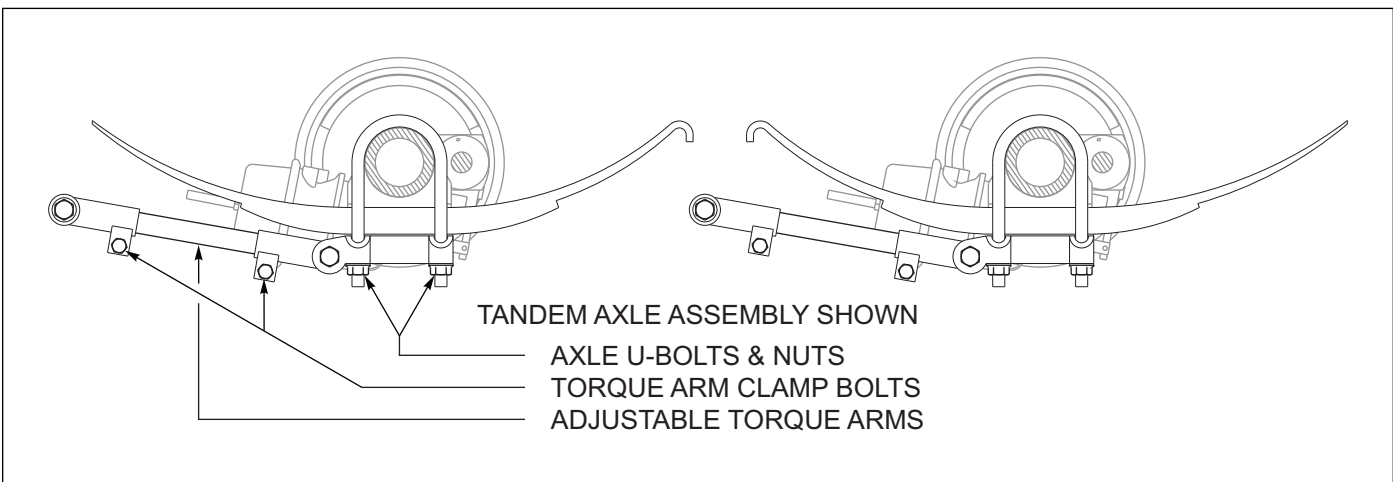

Figure 4-6: Spring Ride Adjustable Torque Arm
6. Align if measurement requires: Loosen the adjustable torque arm clamp bolts. Slightly loosen the axle u-bolt sets evenly on each side of the axle, *See Figure 4-6.*
7. Turn the adjustable torque arm clockwise or counter-clockwise to adjust. Repeat Steps 5-7 until measurement is achieved. *See Figure 4-6.*
3. Align if measurement requires: Loosen the adjustable torque arm clamp bolts. Slightly loosen the axle u-bolt sets evenly on each side of the axle, *See Figure 4-6.*
4. Turn the adjustable torque arm clockwise or counter-clockwise to adjust. Repeat Steps 5-7 until measurement is achieved. *See Figure 4-6.*